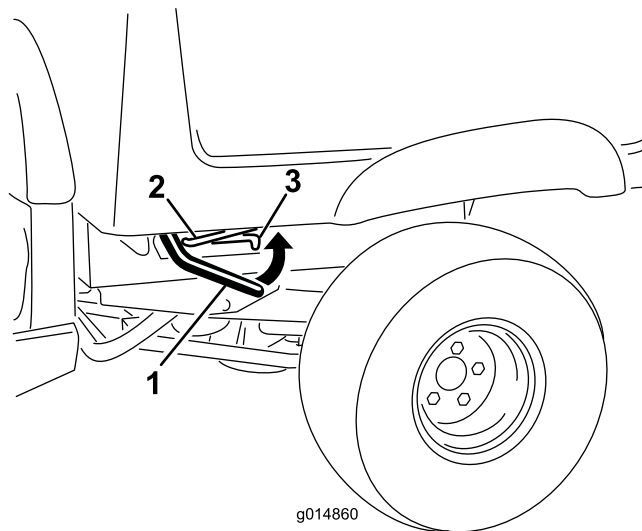

Figure 12
1. Lift the latch lever that is at the either side near the forward corner of the cargo box, and lift the box up (Figure 12).
2. Secure the cargo box by pulling the prop rod into the rear detent at end of the slot that is in the left frame of the machine (Figure 12).
1. Raise the cargo box slightly by lifting up on the latch lever (Figure 12).
2. Pull the prop rod out of the detent slot (Figure 12).
3. Lower the box until it latches into securely (Figure 12).